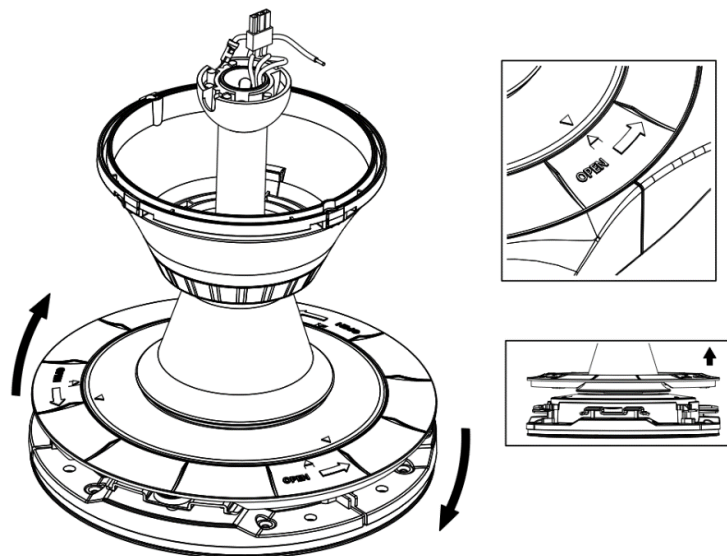

Fig. 5.1
1. Turn the fan host ring cover anti-clockwise to the open position and lift up; (Fig.5.1)